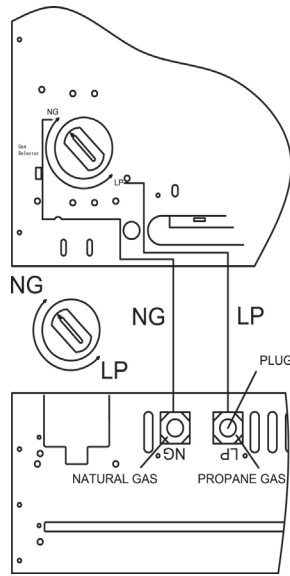

Figure 15
2. For NATURAL GAS, press knob using a flat screwdriver with a blade with thickness of a quarter and turn knob counterclockwise  until the knob locks into the NG position (see Figure 15). Fuel selection device must be locked in the NG position. Do not operate heater between locked positions!